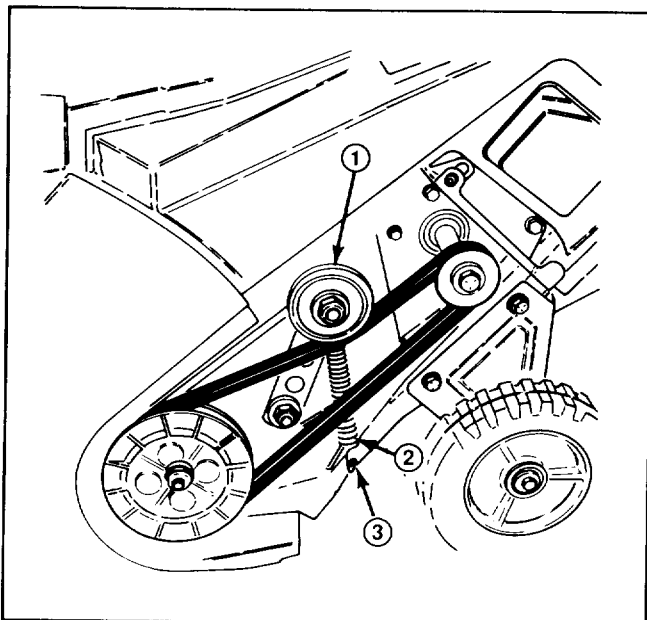

Figure 13
4. **INSTALLING BELT** (Fig. 13) – Loop belt around drive pulley. While holding belt with right hand, slip belt onto rotor pulley and rotate rotor with left hand until belt is completely on rotor pulley. Make sure long end of idler spring is hooked in housing notch and round end of spring is hooked on pin on back of idler pulley. Lift up idler pulley arm assembly, squeeze belt together, and route belt under idler pulley.